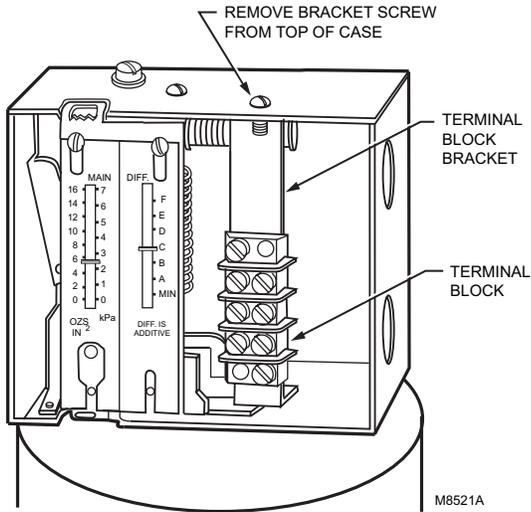

Fig. 8. Removing terminal block bracket.
5. Connecting the ohmmeter between controller terminals W and R (Fig. 8) and raising the setpoint of the controller above the actual pressure being measured. The ohmmeter should read the full value of the potentiometer measured in step 4 (135 ohms for an L91A,B, or D).
### Replacing the Controller Potentiometer (Fig. 8–10)
4. Remove the screw holding the terminal block bracket to the top of the case (Fig. 8). Put this screw in a safe place because it will be needed later.
7. Loosen the (W) and (B) screws on the terminal block, and remove the two wires to the active winding of the potentiometer. Leave the wire to the wiper arm intact.
12. Connect the two potentiometer wires to the (W) and (B) terminals on the terminal block and tighten the screws. Make sure these wires are connected to the same terminals as in the old potentiometer. (Consult sketch in step 6.)
13. Carefully fit the hole in the bottom of the terminal block bracket over the screw protruding upward from the bottom of the case (Fig. 10). Insert the screw (removed in step 4) through the hole in the top of the case (Fig. 8) and into the top of the bracket, and tighten it.